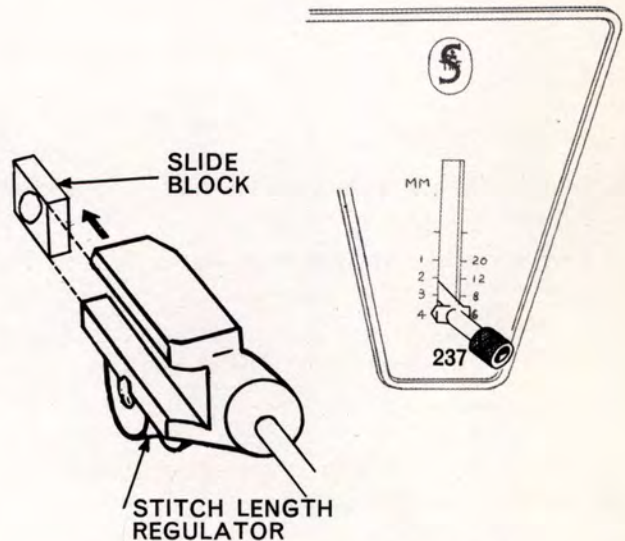

Fig. 25. Stitch Length Regulator.
**REMOVAL:** (See Fig. 25) ,
1. Install regulator in arm, making certain that regulator fits on slide block of feed forked connection, as shown in Fig. 25.